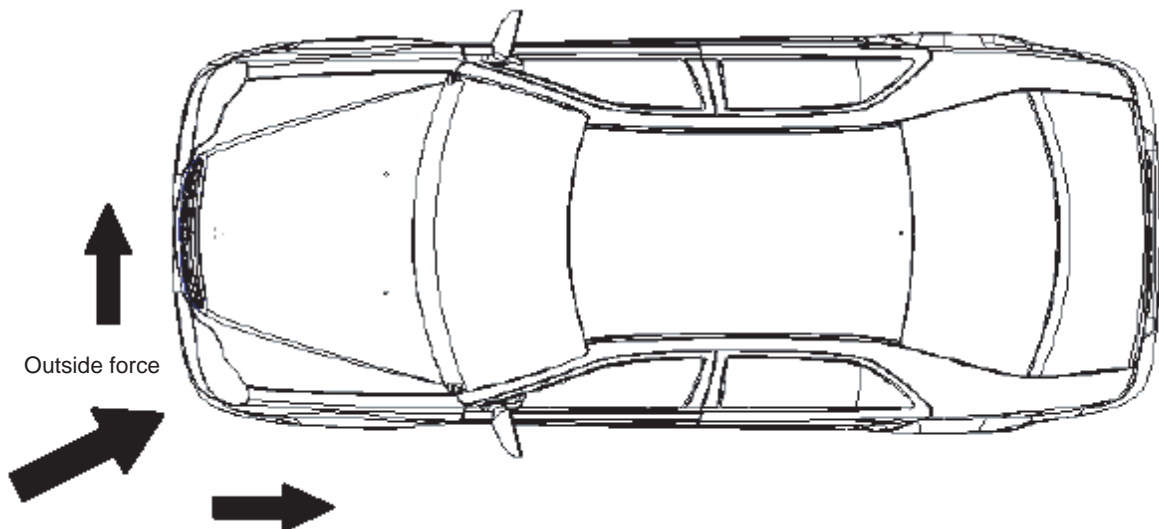

FIGURE 5-15 Outside Force Forming An Angle to The Center Line of The Vehicle
3. Crashed By Outside Force Forming An Angle To The Center Line Of The Vehicle (Figure 5-15)
Figure 5-15 shows the situation when it is crashed by outside force forming an angle to the centerline of the vehicle. When the force is too great, the hood bottom and the front window side column will be affected.